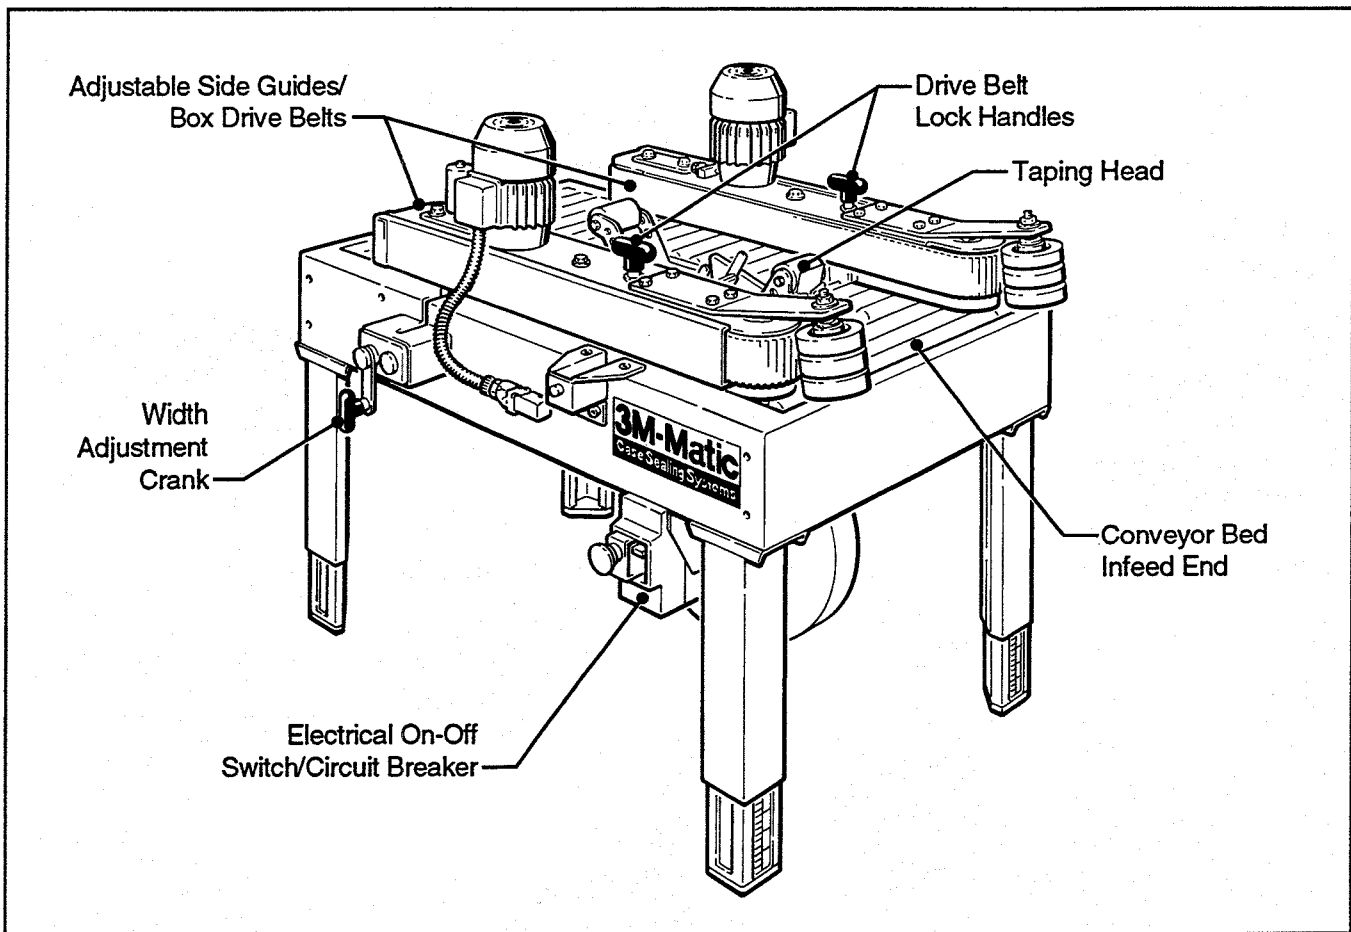
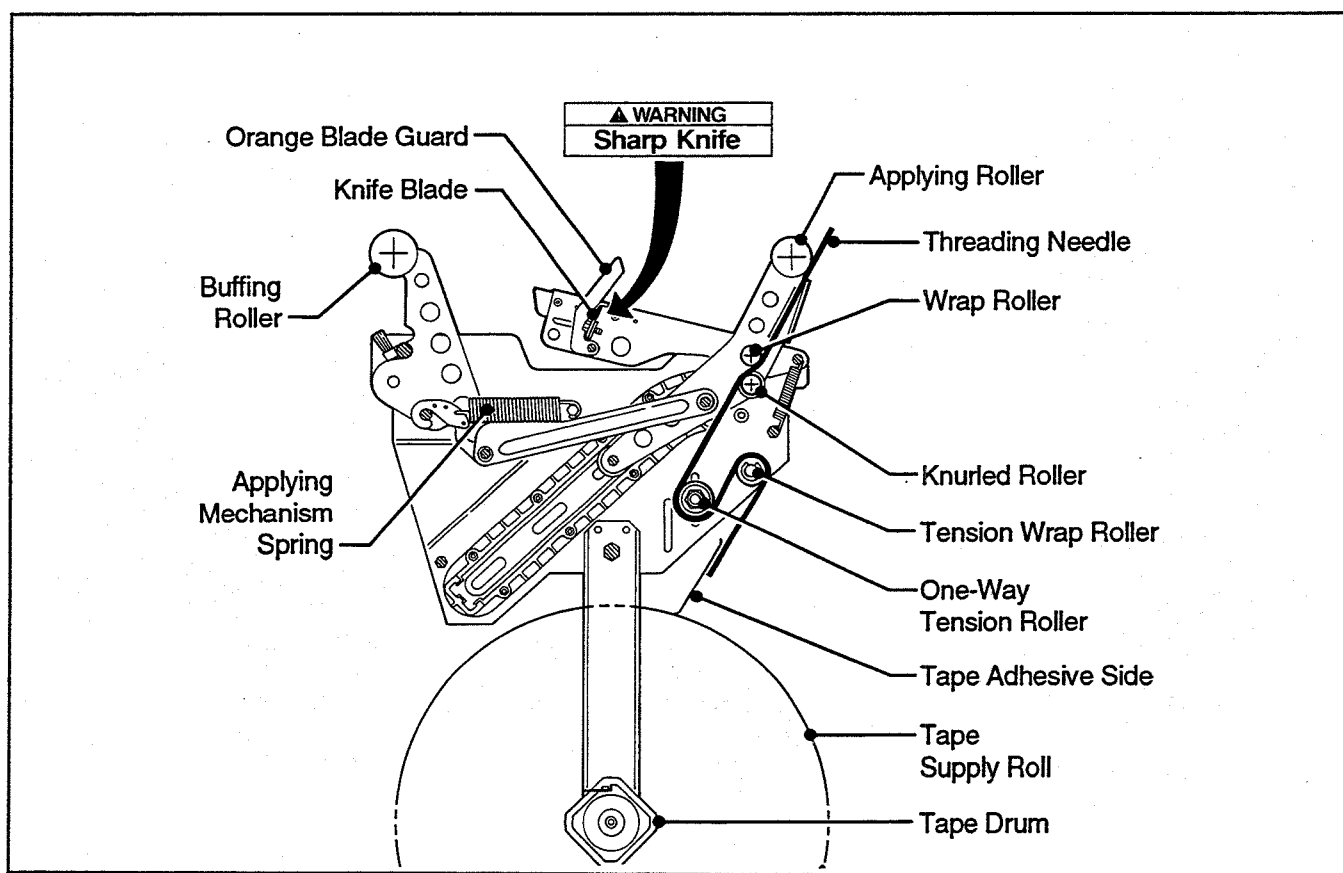

Figure 3-1 – Case Sealer Components
Figure 3-2 – Tape Threading Diagram (Left Side View)
The electrical control box, shown in Figure 3-1, contains the "On/Off" switch with pre-set circuit breaker and can be located on either side of the main conveyor for customer operating convenience. A standard three conductor power cord with plug is provided at the back of the electrical control box for 115 Volt, 60 Hz, 3.6 Amps electrical service. The receptacle providing this service shall be properly grounded. Before the power cord is plugged into 115 Volt, 60 Hz outlet, make sure the red "Off" button is depressed and that all packaging materials and tools are removed from the machine. **Do not plug cord into outlet until ready to run machine.**
Refer to Figure 3-1 to acquaint yourself with the various components of the case sealer and Figure 3-2 for taping head components.
7. THE 12AB taping head utilizes an extremely sharp knife blade. The blade is located under the orange blade guard which has the "WARNING – SHARP KNIFE" label. Before loading tape, refer to Figure 3-2 and identify the blade location. Keep hands out of these areas except as necessary to service the taping head.
The box drive belts are turned on and off ("Off" button is red) with the electrical switch on the side of the conveyor bed frame. Refer to Figure 3-1 for location of this switch.
Refer to Figure 3-2 to identify the various components of the taping head, especially the cut-off blade location.
2. Follow **Steps 1, 2 and 3** below and also refer to Figure 3-2.